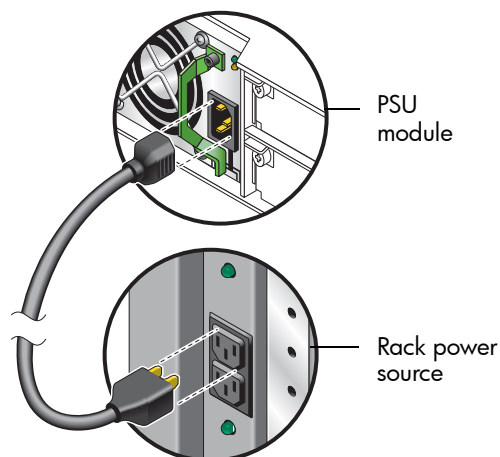

Figure 12 AC PSU power cable, switchless unit
1. Install the power cord. See Figure 12.